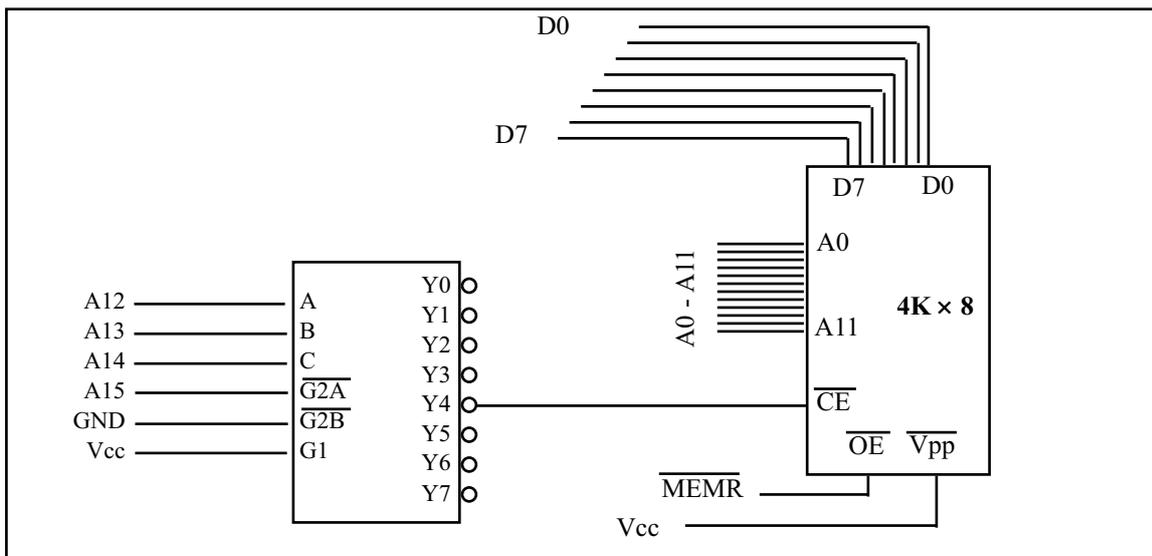

Figure 0-22. Using 74LS138 as Decoder
Looking at the design in Figure 0-22, find the address range for the following:
The above shows that the range for Y4 is 4000H to 4FFFH. In Figure 0-22, notice that A15 must be 0 for the decoder to be activated. Y4 will be selected when A14 A13 A12 = 100 (4 in binary). The remaining A11–A0 will be 0 for the lowest address and 1 for the highest address.
8. In Figure 0-22, what is the range of addresses assigned to Y5?